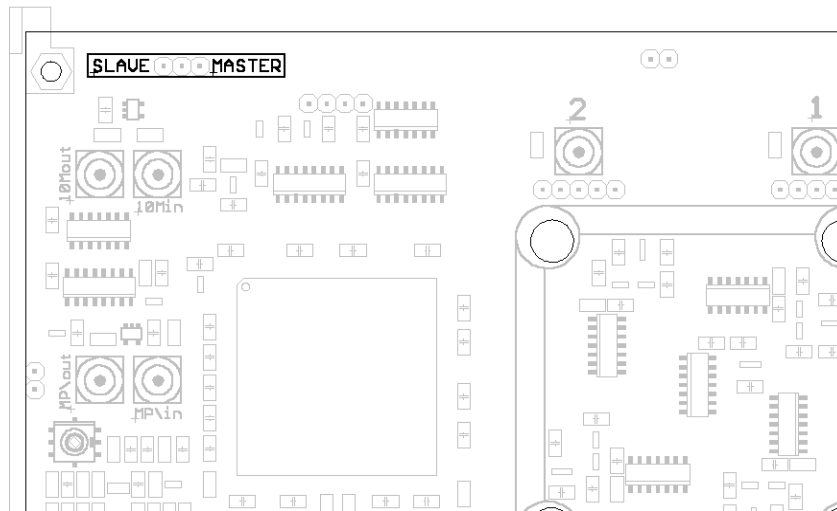

Fig. 2: Position of Master/Slave Jumper
1. All clock or frequency inputs which are to be supplied with user-generated signals, are equipped with an input circuit similar to the one given in Fig. 2 . This applies to the 10 MHz clock input as well as to the channel 1...4 F_x inputs. We recommend square wave signals with 1...5V level as input signals. .